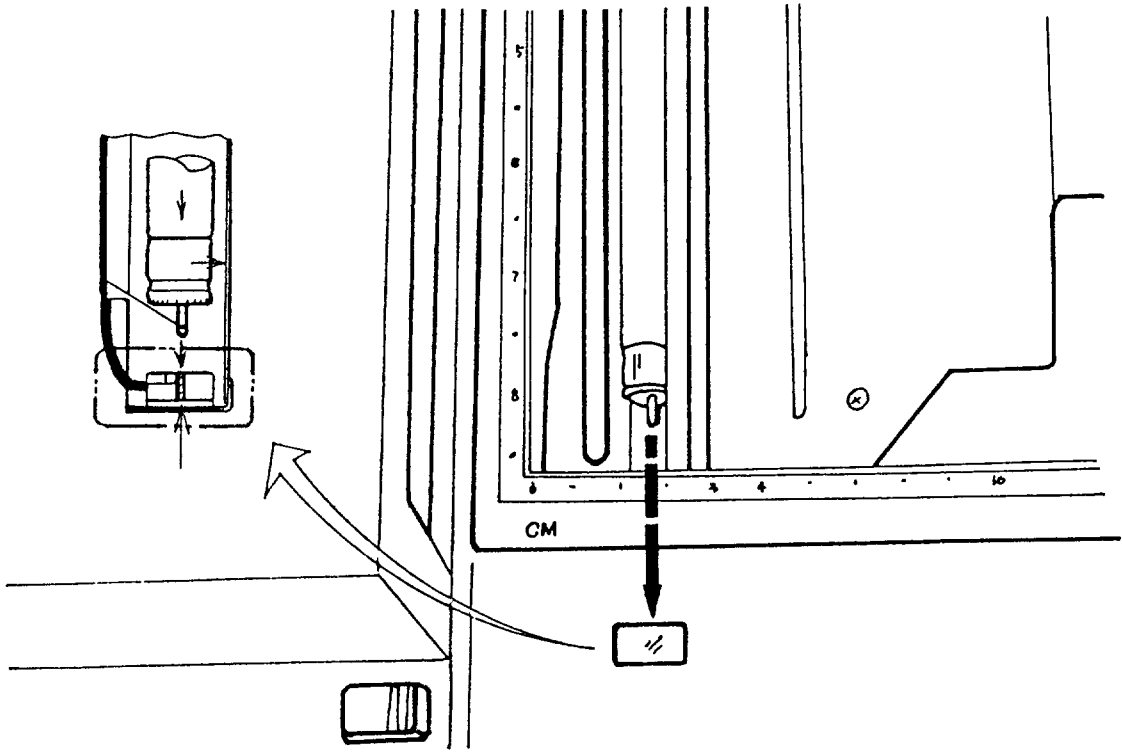

Figure 4.8 Replacement of the lamp unit:
3. Press the lamp into place so that the two pins are inserted firmly into the black bracket, as shown in Figure 4.8.